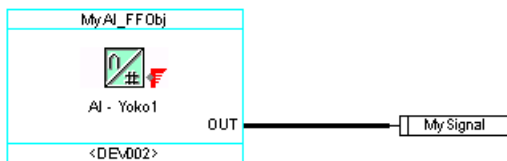

Figure 72. Assigning Signal
8. Drag and drop the required **input / output** blocks (e.g AI / AO) into the graphics area from link view tab. Assign signals to **input / output** (e.g AI) blocks as displayed in Figure 72.